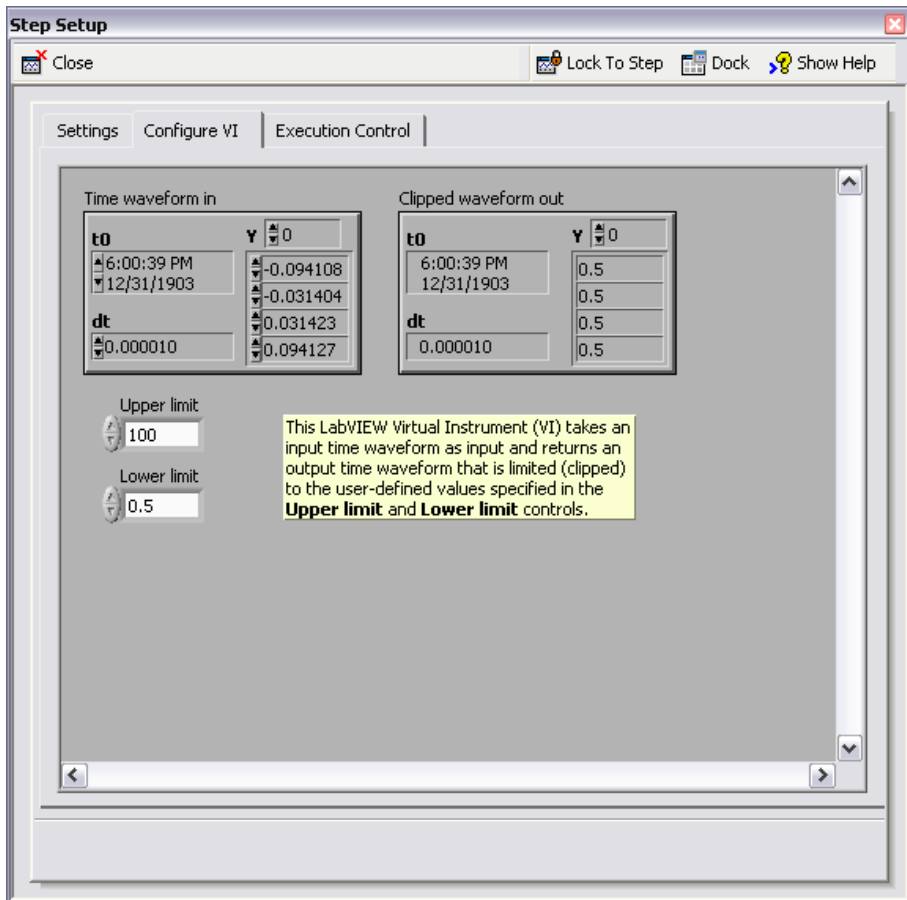

Figure 7-2. Configure VI Tab
10. Enter new values in the **Upper limit** and **Lower limit** fields. For example, enter 100 in the **Upper limit** spin control as shown in Figure 7-2.